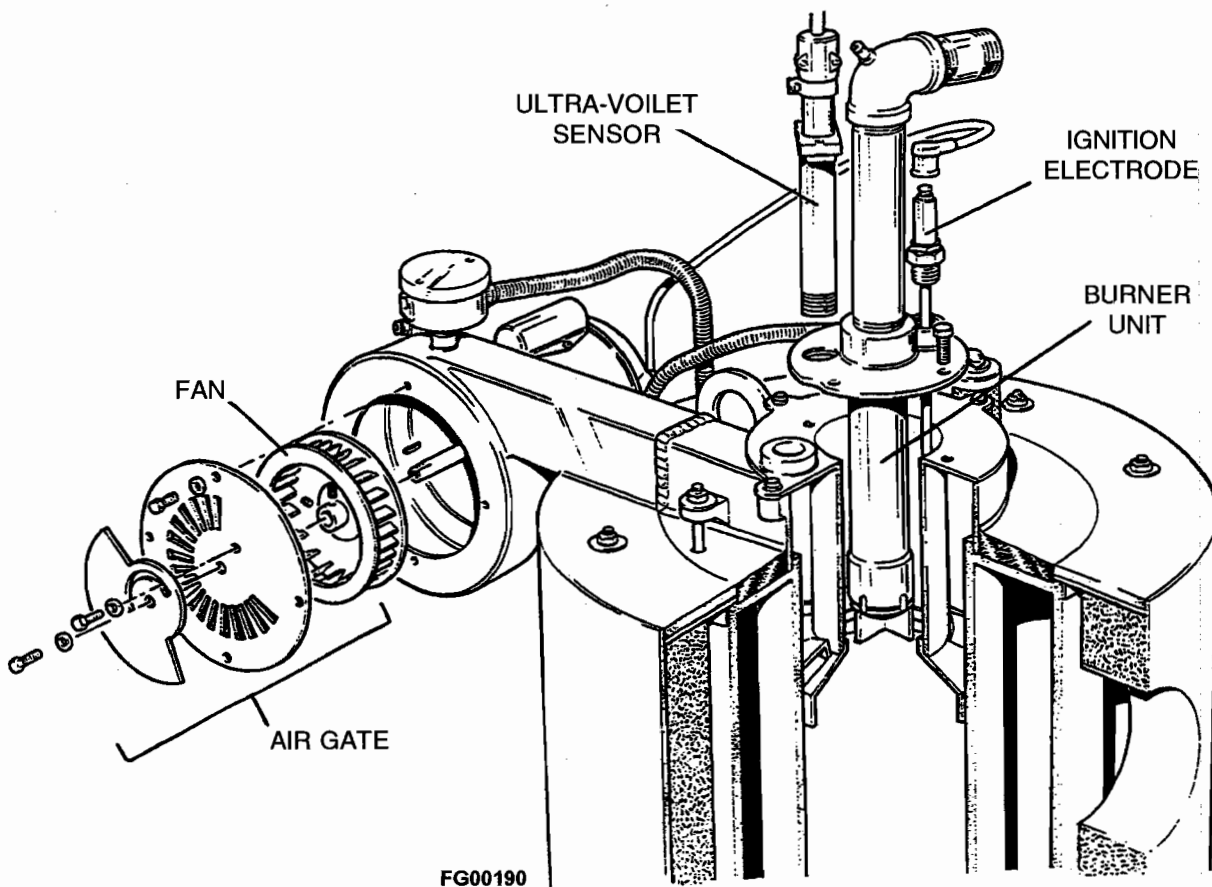

FIG 18 BURNER ASSEMBLY
- (d) Referring to **Fig. 18** disconnect the gas head from the burner by unscrewing the union. Remove the burner plate screws, withdraw the burner assembly. Clean the ignition electrodes and reset. If an ultra -violet cell is fitted, check that the lens is clean.